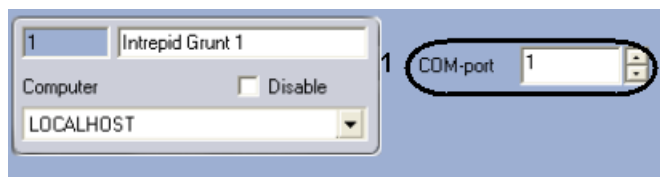

Fig. 3.2—2 Configuring the Microtrack connection to the Server
2. With the help of the **up arrow** and **down arrow** buttons, in the **COM Port** field, enter the number of the COM port for the Intrepid Grunt connection (see Fig. 3.2—2, 1).